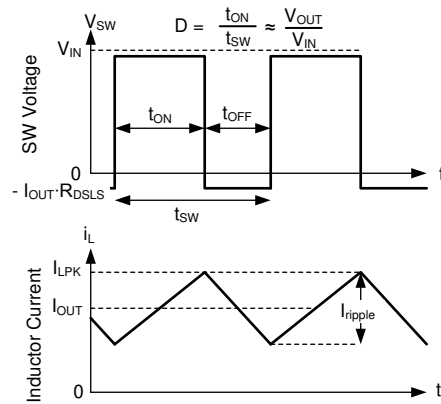

Figure 7-15. SW Voltage and Inductor Current Waveforms in Continuous Conduction Mode (CCM)
The following operating description of the device refers to Section 7.2 and to the waveforms in Figure 7-15. In CCM, the device supplies a regulated output voltage by turning on the internal high-side (HS) and low-side (LS) NMOS switches with varying duty cycle (D). During the HS switch on time, the SW pin voltage, V_{SW} , swings up to approximately V_{IN} , and the inductor current, i_L , increases with a linear slope. The HS switch is turned off by the control logic. During the HS switch off time, t_{OFF} , the LS switch is turned on. Inductor current discharges through the LS switch, which forces the V_{SW} to swing below ground by the voltage drop across the LS switch. The converter loop adjusts the duty cycle to maintain a constant output voltage. D is defined by the on time of the HS switch over the switching period: